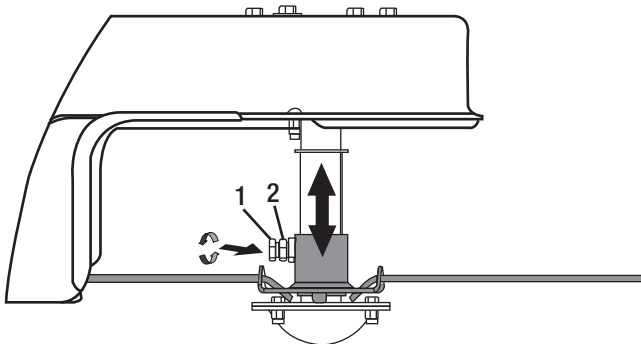

Figure 1-8
- Slide the spindle upward or downward to the desired position before retightening the bolts (1) and nut (2). See Figure 1-8. Bolts must be tightened with the spindle when starting the equipment.